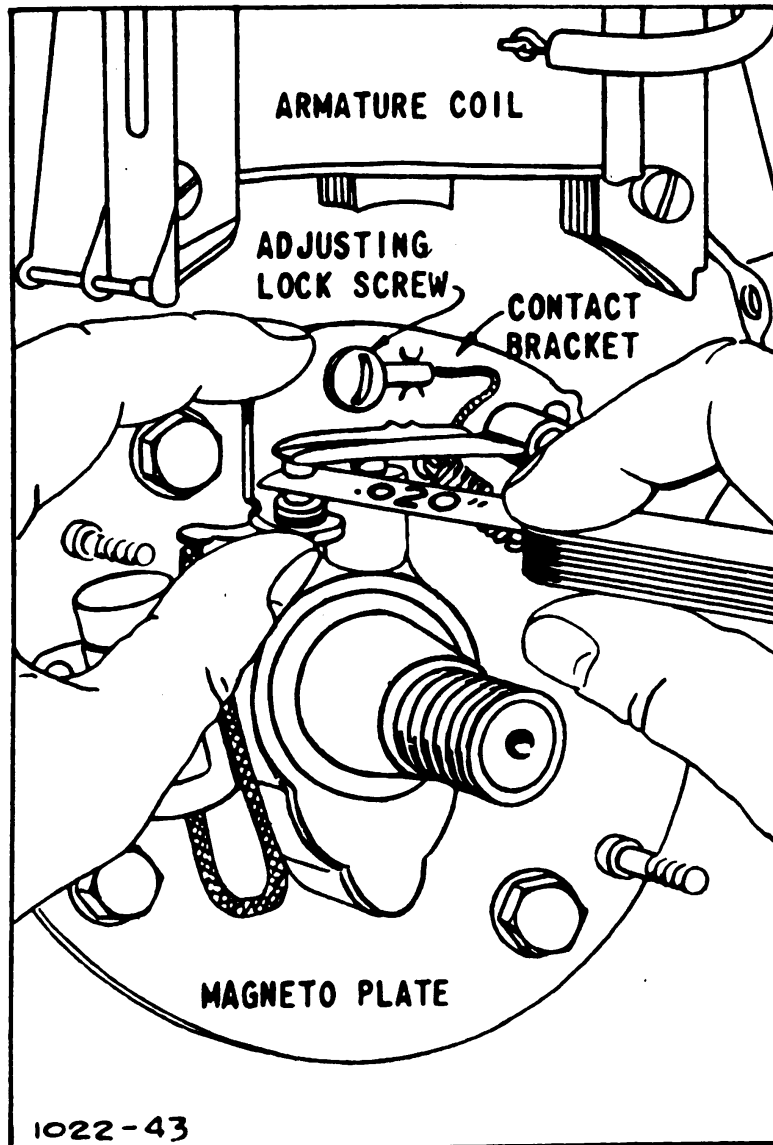

Figure 14.—Adjusting contact points
23. TO ADJUST AND CLEAN MAGNETO CONTACT POINTS.— Remove blower housing, flywheel and magneto point dust cover. Turn crankshaft by hand to see if contact points open and close properly. Points must be clean and lined up squarely to make good electrical contact. Do not use a steel file, but use fine sandpaper or fine grit hone to clean points. Adjust gap to .020 inch by loosening the adjusting lock screw and moving contact point bracket up or down (fig. 14). When proper gap is obtained, tighten lock screws securely. Recheck the gap after tightening lock screw to make sure adjustment has not shifted. If either or both points become badly pitted or burned and need replacement, always replace complete assembly, stock number 3H4577A/P30.